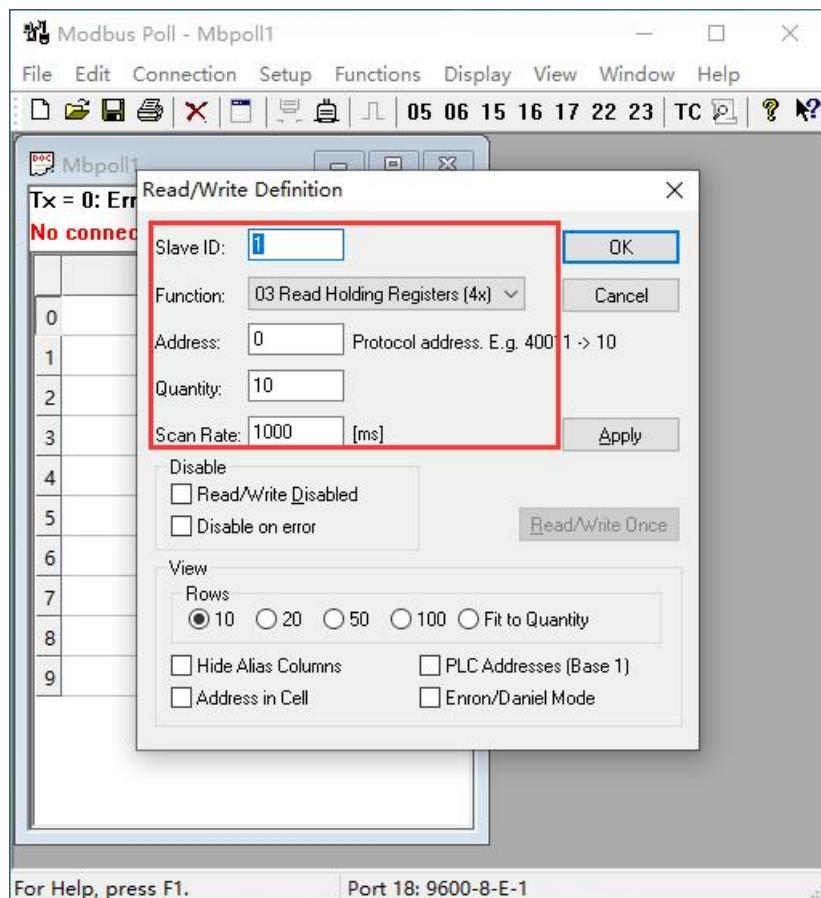

Figure 6-30 Modbus Master Creation
- 3) Open the "Modbus Poll" tool and configure the serial port information. The parameter settings are as shown in Figure 6-30, and the ID is set as 1. Function code selection 3.